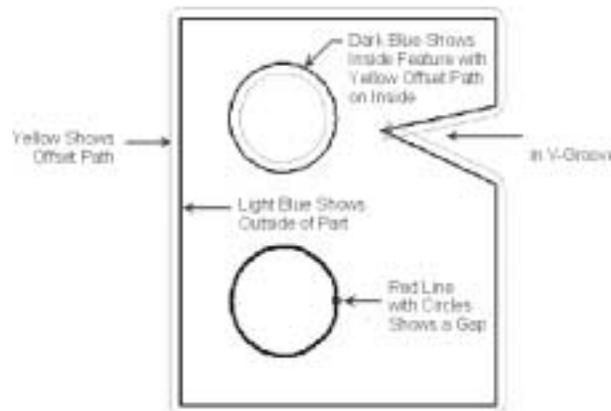

Figure 11. Simple part after examination
2. Select **Options | Examine Drawing** or click on the Examine drawing icon  to check the drawing. Figure 11 shows how the drawing looks after being examined. Comments on the image point out some of the features of the examined image.
If there are any open paths, they are drawn in red with the open ends surrounded by small circles. This allows any unexpected gaps or overlapping entities to be identified and modified before the path is ordered. If the lead-ins and lead-outs have already been drawn, they are displayed in red with the open ends circled. Any single-pass "slots" are also open-ended and drawn in red. In Figure 11
the examination revealed that there is an unwanted gap in the middle circle that needs to be closed. Figure 11 also shows that there is an unexpected difference between the offset path of the V-groove and the drawing. Zooming in on the point of the V-groove reveals a small entity at the point of the V that caused the offset path to be different from what would be expected. By finding and correcting this problem in FlowPATH, the machine operator does not have to deal with it when cutting the part.